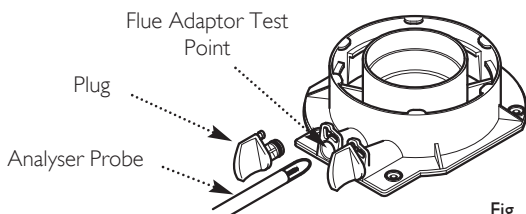

Fig. 107
7. Remove the plug from the flue adaptor test point. Insert the analyser probe and allow time for the reading to settle (Fig. 107).